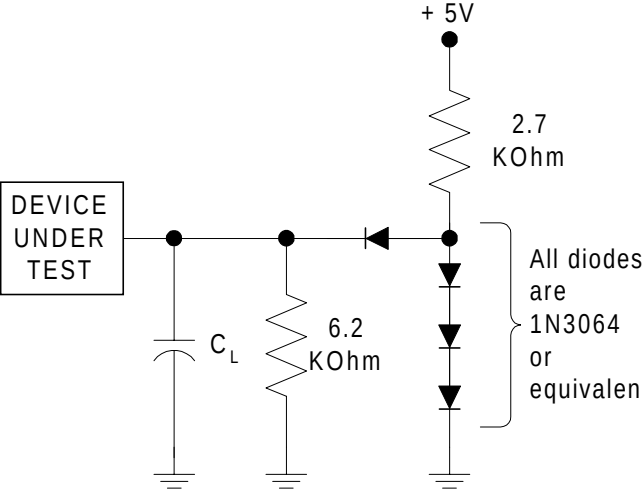

Figure 11. Test Setup
- See Figure 11 and Table 7 for test conditions.
- 2. See Figure 11 and Table 7 for test conditions.